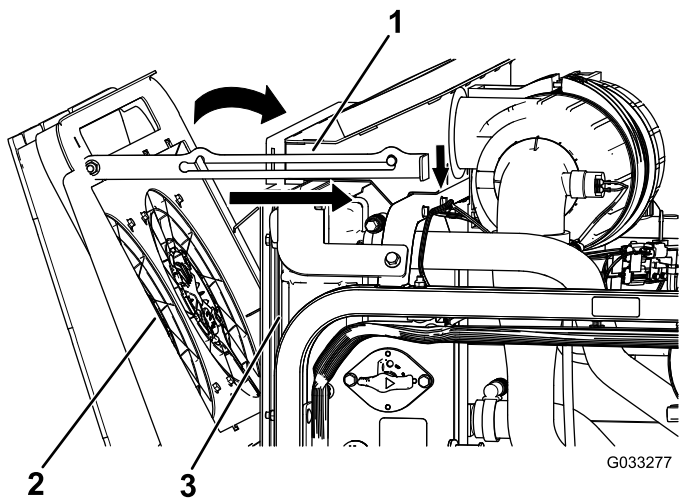

Figure 115
4. Pivot the engine-cooling fans forward and lock the prop rod into the notch (Figure 115).